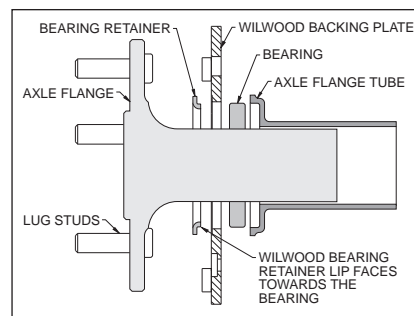

Figure 4. Retainer / Axle Diagram
- With the larger I.D. side of the rotor (4) facing away from the hat (3), bolt rotor (4) to hat (3) through the backside of the rotor using washers (5) and bolts (6). Using an alternating sequence, apply red *Loctite*® 271 to the threads and torque bolts to 155 in-lb. For an added measure of security, the bolts may be safety wired using standard 0.032 inch diameter stainless steel safety wire as shown in Figure 4. Please refer to Wilwood's data sheet DS-386 (available at www.wilwood.com/Pdf/DataSheets/ds386.pdf) for complete safety wire installation instructions.